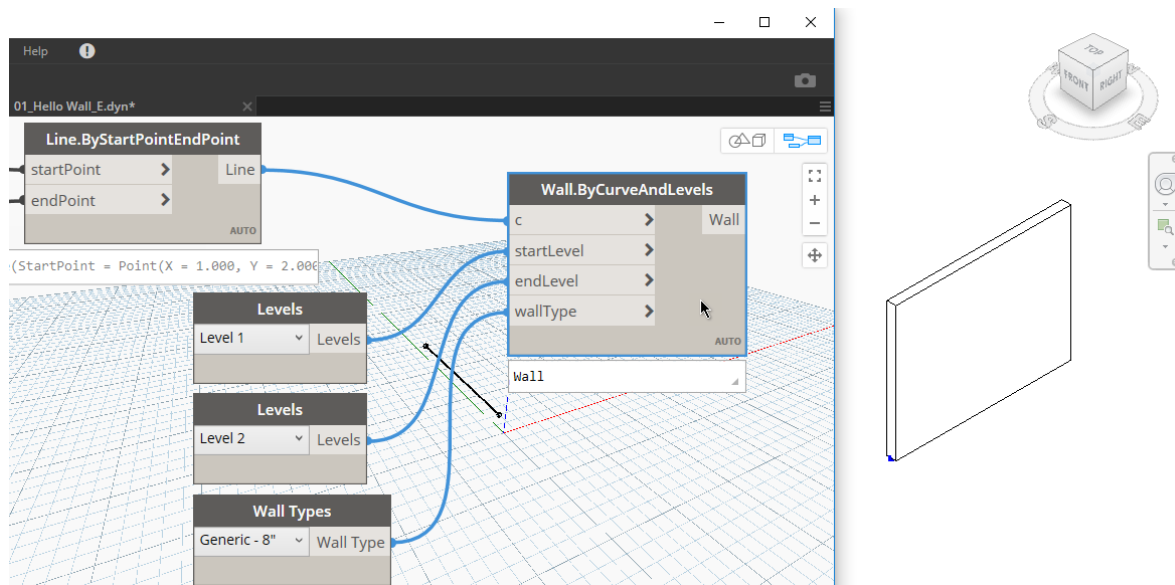

Figure 22
This node has four inputs: c stands for “curve.” We also need two levels to set the height and a wall type. As noted previously, a useful habit to get into is to pause your mouse over the various inputs for a tooltip indicating more information on what that input expects (see Figure 22).
21. Choose: **Level 2** from the next one and wire it to: **endLevel** and then choose any wall type and wire it to the **wallType** port (see Figure 22).